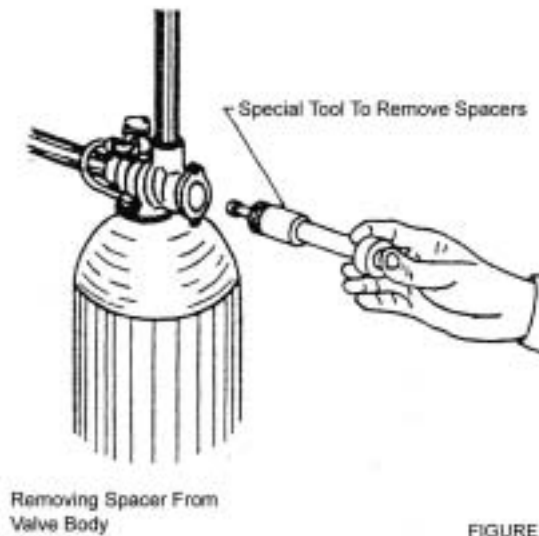

FIGURE 3
8. Insert the pin end of the spacer tool into the valve body with the pins retracted (button pulled back). Push the tool tight against the spacer and push the button in, (see Fig. 3). When the button is pushed in, the pins are pushed out to engage the 1/4 dia. Holes in the spacer. Remove the tool from the valve body. The spacer will be on the end. Pull the center button back, the pins will be retracted and the spacer can be removed from the spacer tool.